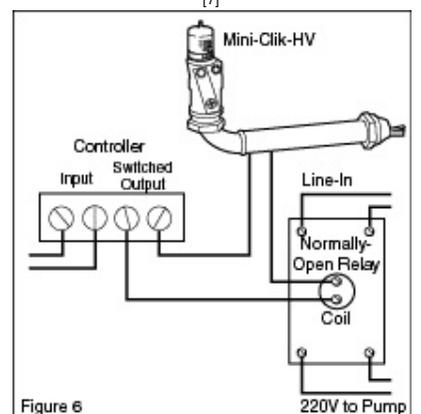

Figure 6
- [8] http://www.hunterindustries.com/sites/default/files/ts_miniclik_fig6.gif